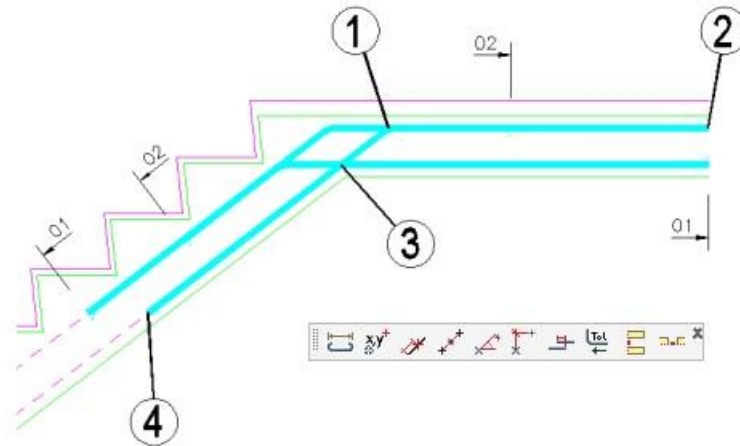

Figure 4.7.16:1 Placing Order of Shape Code 15 in the top landing
- Figure 4.7.16:1 above shows where to pick the points to place the bar